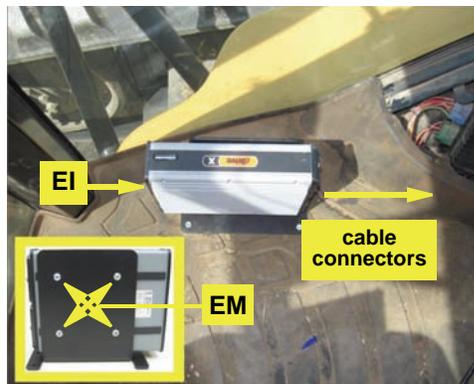

Figure 1c: Installed ECU (with inset)
- c. Using hardware **EM**, attach ECU **EI** (its cable connectors rearwards) to the inside face of bracket **EJ** (Figure 1c with inset).